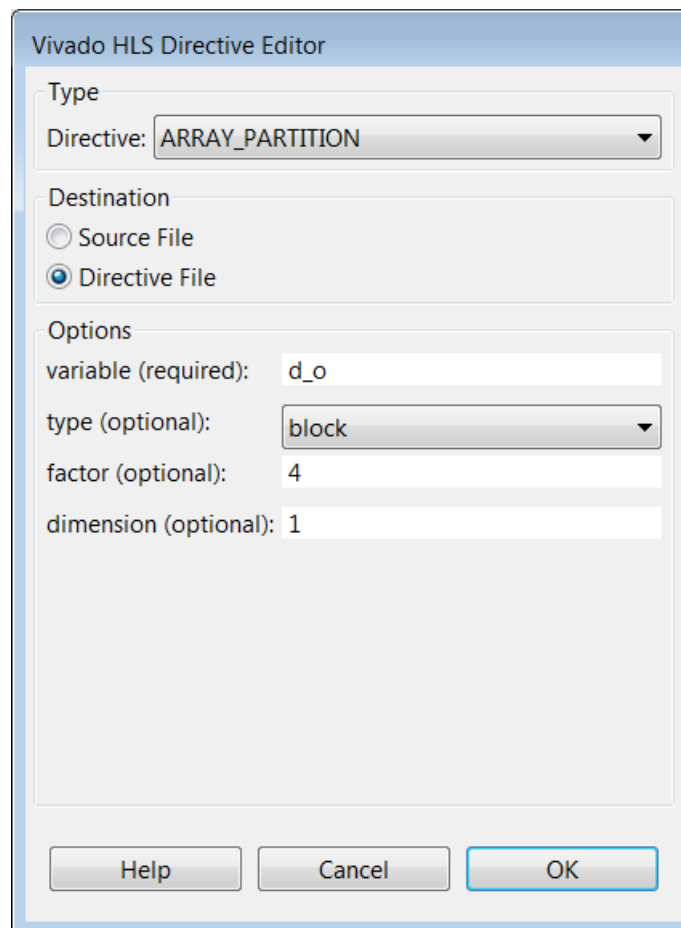

Figure 75: Directives Editor for Partitioning Array `d_o`
- d. With the Directives Editor as shown in Figure 75, click **OK**.